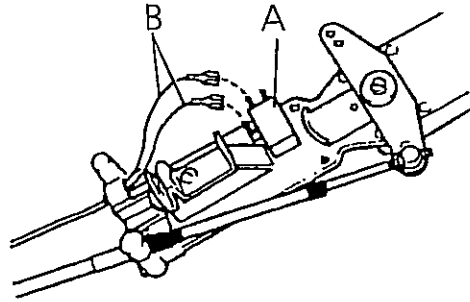

Fig. 20
**NB** The switch (A fig. 20) must be mounted with the electrical plugs (B fig. 20) turned away from the gear cable.